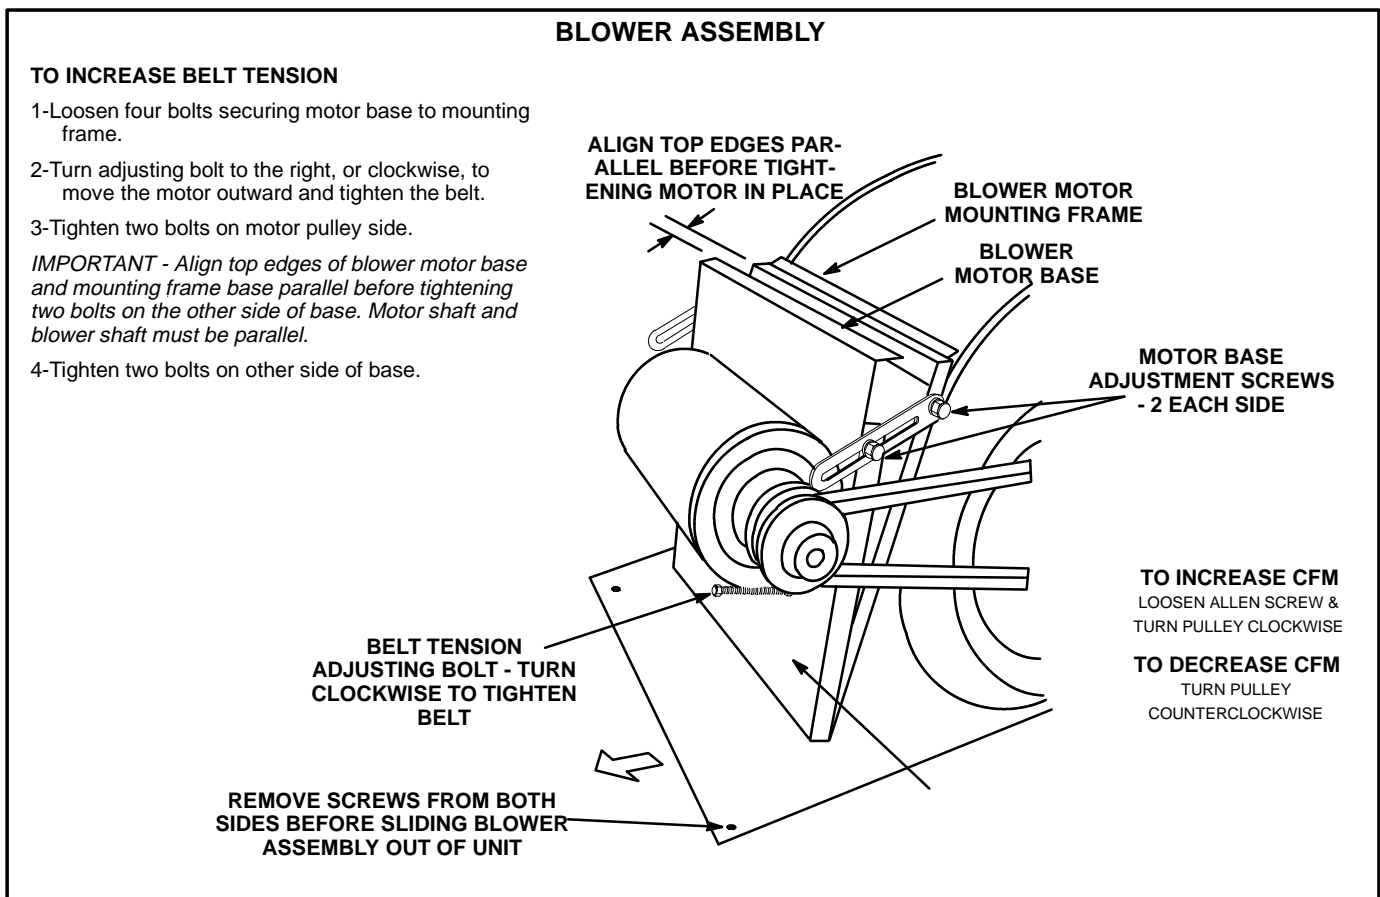

FIGURE 11
- 2- Remove screws on either side of blower assembly sliding base. See figure 11.
- 5- The blower RPM can be adjusted at the motor pulley. Loosen Allen screw and turn adjustable pulley clockwise to increase CFM. Turn counterclockwise to decrease CFM. See figure 11.
1- Loosen four bolts securing motor base to mounting frame. See figure 11.